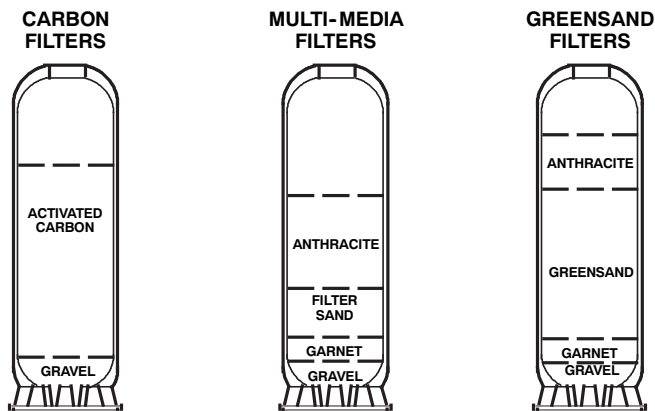

FIG. 2
6. Add the specified amount of resin (see page 4) or filtration media (see page 6) in the correct sequence, as shown in Figure 2. Use water sparingly to speed flow through the funnel. It may be necessary to siphon from the bottom of the distributor if tank becomes full of water.